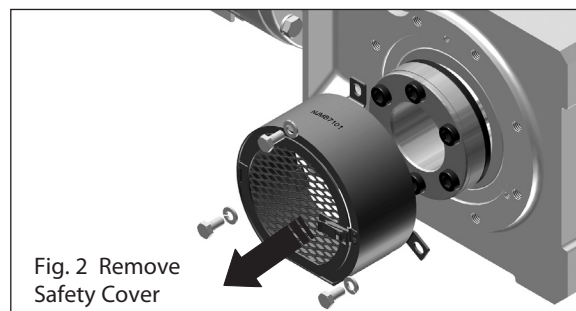

Fig. 2 Remove Safety Cover
**Step 1** – Remove the Taper-Grip® bushing safety cover (see Fig. 2).